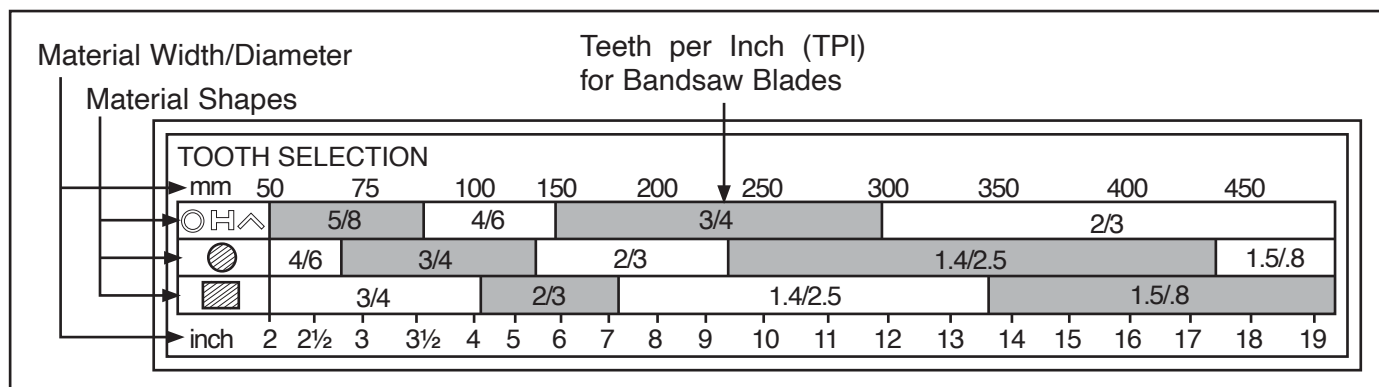

Figure 35. General guidelines for blade selection and speed chart.
2. Refer to "Material Width/Diameter" row of blade selection chart in **Figure 35**, and read across to find workpiece thickness you need to cut.